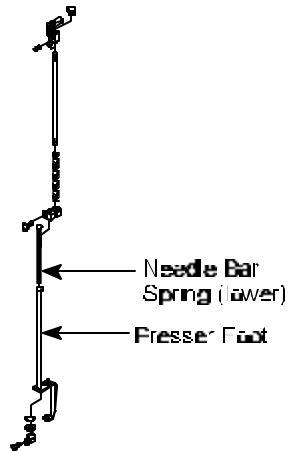

Figure 6
17. **Remove** Presser Foot and Needle Bar Spring (lower). See *Figure 6*.